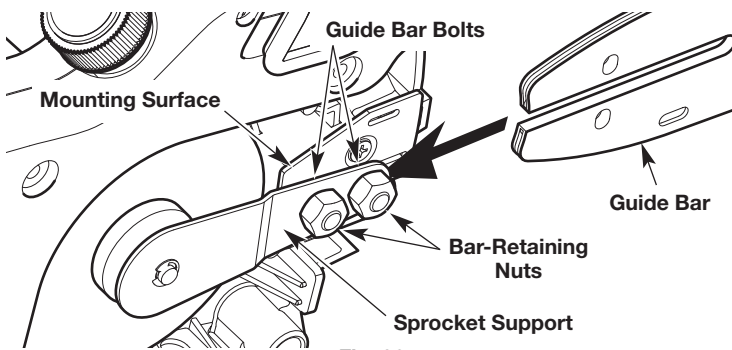

Fig. 36
6. Remove the guide bar from the guide bar bolts (Fig. 36).
2. Align the slot in the guide bar with the guide bar bolts (Fig. 36). Insert the guide bar between the sprocket support and mounting surface (Fig. 36). Slide the guide bar completely onto the guide bar bolts (Fig. 36).